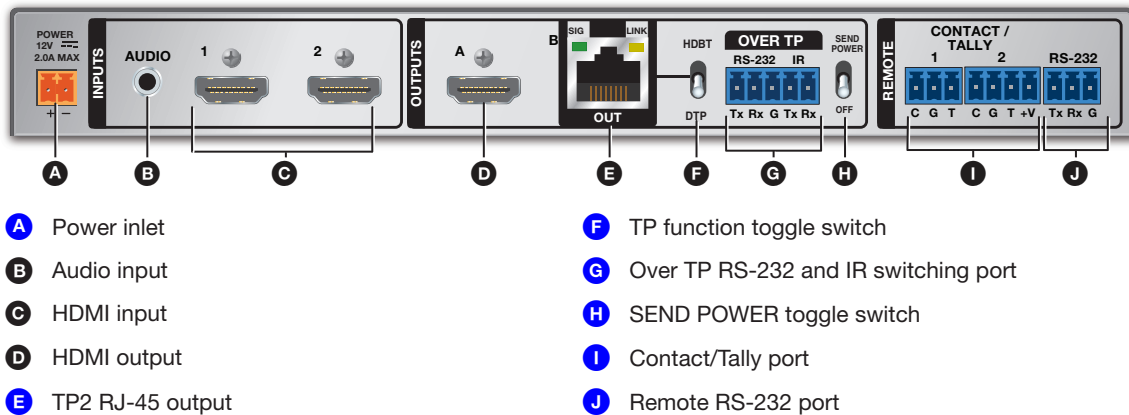
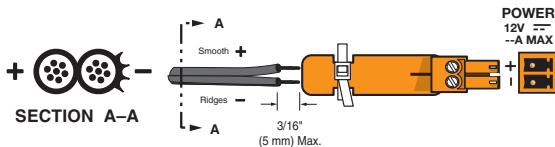

Figure 2. DTP2 T 212 Rear Panel
Figure 4. Wiring the Power Connector
6. **Connect an RJ-45 DTP or HDBT receiving device** to the output (see figure 2, **E** on the previous page) for either DTP or HDBT mode (see image to the right to properly wire the RJ-45 connector).
- If the receiver is in the **Extron DTP2 series**, set the **DTP/HDBT toggle switch (F)** to **DTP** and the **SEND POWER switch (H)** to the **UP (SEND POWER)** position. **On the receiver, set the SEND POWER switch to the DOWN (OFF) position.**
- If the receiver is in the **Extron Legacy DTP series**, set the **DTP/HDBT toggle switch (F)** to **DTP** and the **SEND POWER switch (H)** to the **DOWN (OFF)** position.
- If the receiver is **HDBaseT enabled**, set the **DTP/HDBT toggle switch (F)** to **HDBT**, and the **SEND POWER switch (H)** to the **DOWN (OFF)** position.
- Position these toggle switches (see figure 2, **F** and **H**) **BEFORE** connecting the appropriate device to the TP connector. Failure to comply can damage the endpoint.
- Positionnez ces sélecteurs (voir figure 2, **F** et **H**) **AVANT** de connecter l'appareil approprié au connecteur TP. Ne pas respecter cette procédure pourrait endommager le point de connexion.
9. **Connect a contact closure device** (optional). Connect a push-button contact closure device to a Contact port (see figure 2, 1, on page 1) to enable input switching via contact closure.
10. **Connect an indicator device to the Tally Out port** (optional). To identify the currently selected input when the front panel buttons are not visible, connect a device such as an LED to the Contact/Tally port (figure 2, 1). When the input you are using is selected, the corresponding tally out pin shorts to ground, which activates the connected indicator.
11. If necessary, wire a 2-pole captive screw connector to your power supply as shown in figure 4 (see figure 2, A on page 1).